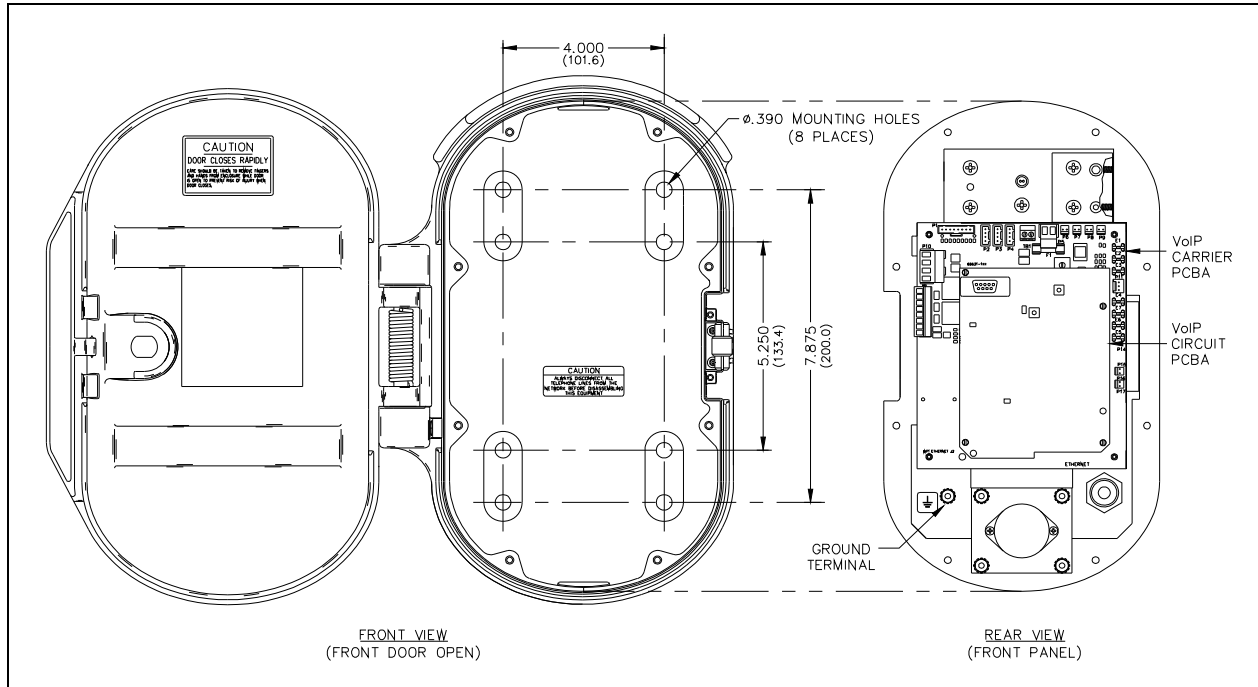

Figure 8. Model 226-700 Mounting Detail
3. Determine the hole pattern to be used for mounting (see Figure 8).